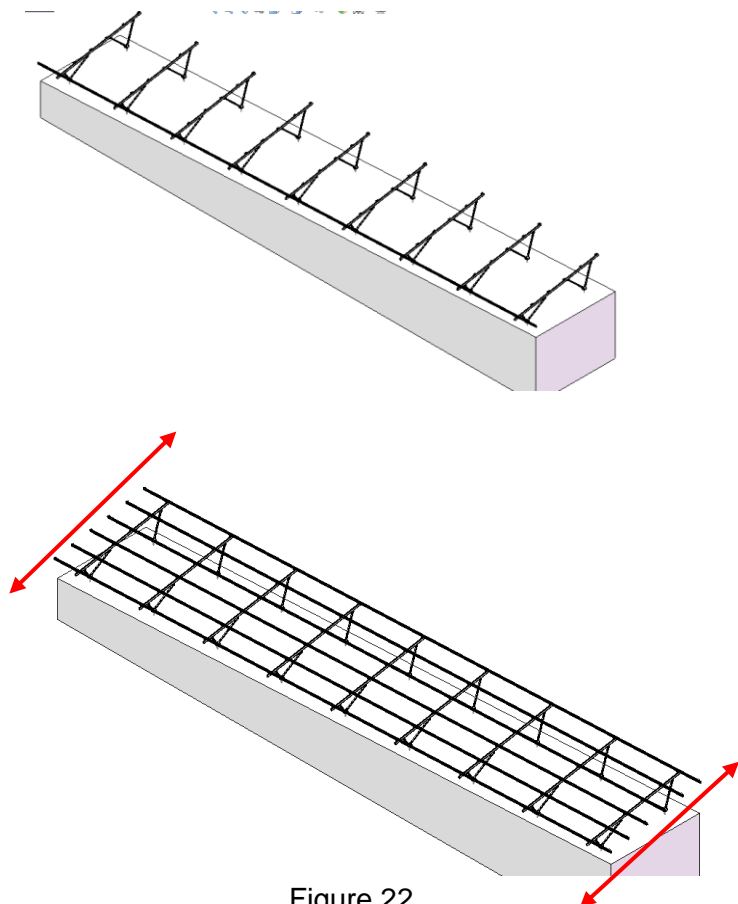

Figure 22
4.4.4 Repeat above operations, install other TM Rails. Ensure the end faces of Rails are aligned and all Rails are at same height as shown in Figure 22. Now fasten all bolts tightly.